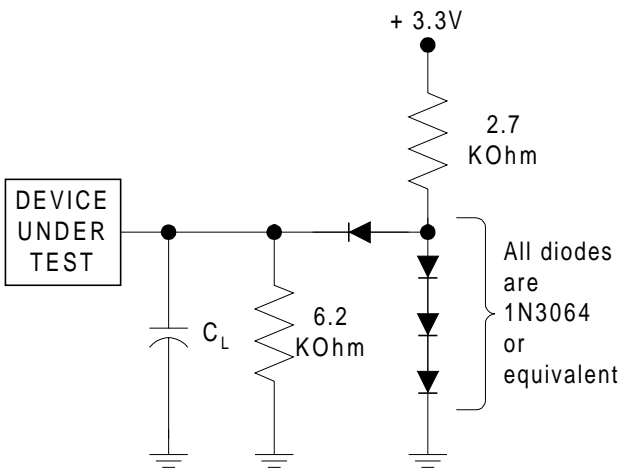

Figure 13. Test Setup
2. See Figure 13 and Table 12 for test conditions.
- See Figure 13 and Table 12 for test conditions.